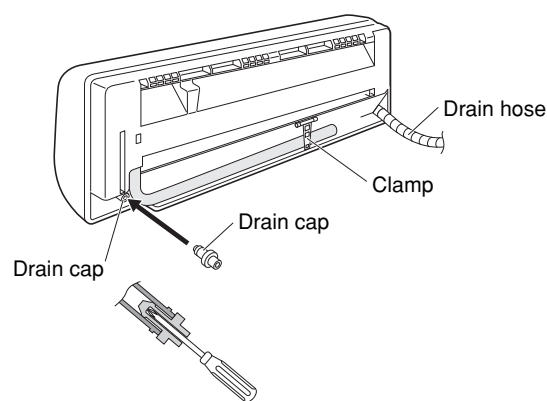

Fig. 40d
- (3) Install the indoor unit on the rear panel.
- (4) Connect the tubing and wiring led inside from outdoors.
- (5) After completing a leak test, bundle the tubing together with armoring tape and store it inside the tubing storage area at the back of the indoor unit and hold it with clamps. (Figs. 40d and 41b)